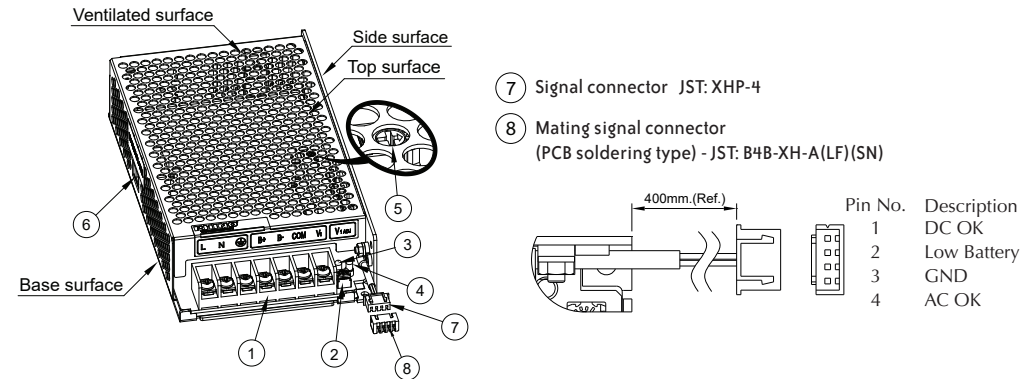

Figure 1 - Device Descriptions
- Must select correct AC input voltage range through selectable switch before turning on (Fig. 1, ⑥).
2. Device Descriptions (Fig. 1)
- (4) Red LED ON = Battery reverse polarity
- (5) Battery charging current adjustment potentiometer (Factory Setting: 1A)
Max charging current shall not exceed 1.5A (Refer to Fig. 1, ⑤).
- (6) AC selectable switch
- (7) Signal connector - JST: XHP-4
- (8) Mating signal connector (PCB soldering type) - JST: B4B-XH-A(LF)(SN)